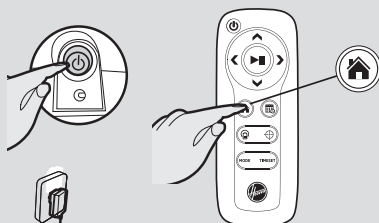

Fig. 4
Switch on the vacuum robot with the on/off button on the side (I). **[Fig. 4]** Set it down in front of the charging station.